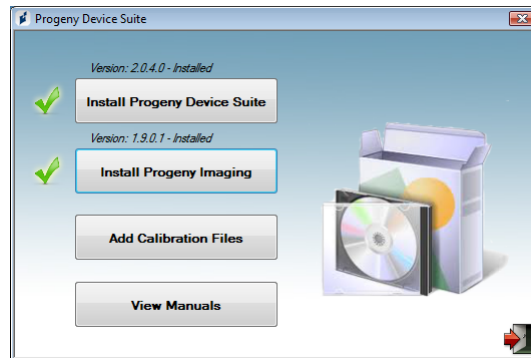

Figure 7: Progeny Device Suite and Progeny Imaging are installed
- Green check marks next to each of the ‘Install Progeny Device Suite’ and ‘Install Progeny Device Suite’ buttons will appear when both the Progeny Device Suite and Progeny Imaging are installed (Figure 7).